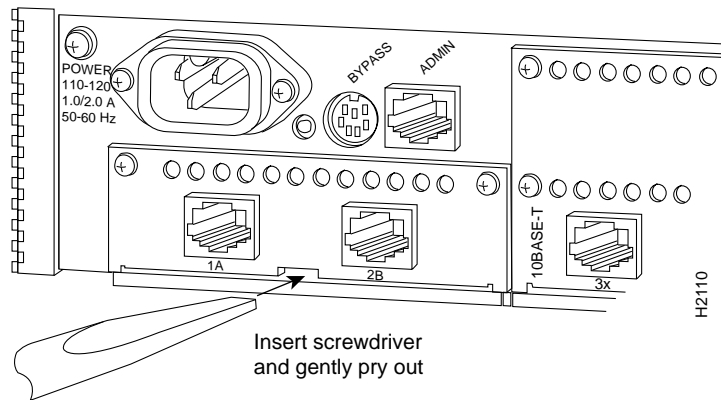

Figure 5 Removing the A/B Port Card
Step 2 Remove the two screws that secure the port card to the concentrator. (See Figure 5.)
Step 3 Gently pry the A/B port card out of the slot with a flat-blade screwdriver. (See Figure 5.) After traveling approximately 1/2 inch, the card will be free from the connector and will slide out easily.